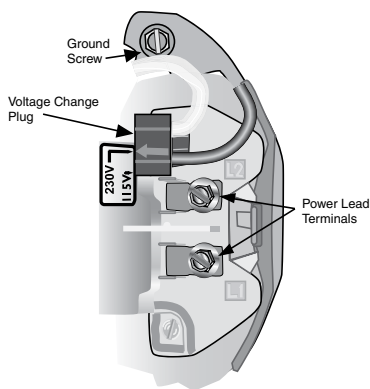

**Figure 6: Removing Motor End Cover**
7. Connect current carrying conductors to terminals L1 and L2 under motor canopy. When replacing motor, check wiring diagram on motor nameplate against Figure 6. If the motor wiring diagram does not match either diagram in Figure 6, follow the diagram on the motor.
**IMPORTANT:** 115/230 Volt single phase models are shipped from factory with motor wired for 230 volts. If power supply is 115 volts, remove motor canopy and reconnect motor as shown in Figure 6. Do not try to run motor as received on 115 volt current.